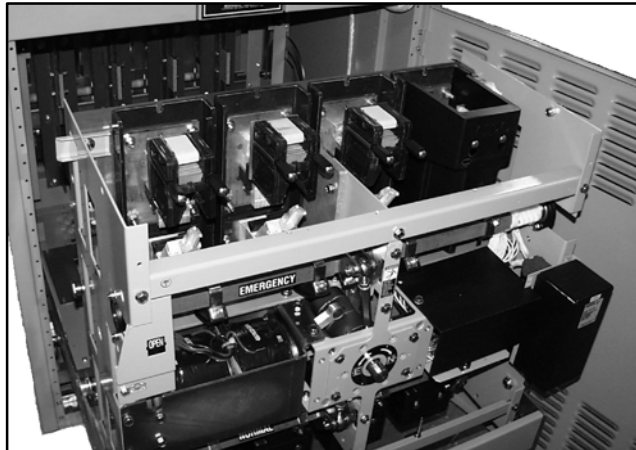

Figure 11-4 Interphase Barriers Removed
3. Remove the interphase barriers (one per pole). Use a blade screwdriver to loosen two round-head screws holding each barrier to the arc chutes. Slide the barrier away from the operator mechanism until the keyholes in barrier clear the two round-head screws, then remove the barrier. See Figure 11-4.
3. Remove the barriers. Use a blade screwdriver to loosen only two round-head screws holding each barrier to the arc chutes. Slide the barrier away from the operator mechanism until the keyholes in the barrier clear the two round-head screws, then remove the barrier. See Figure 11-4.